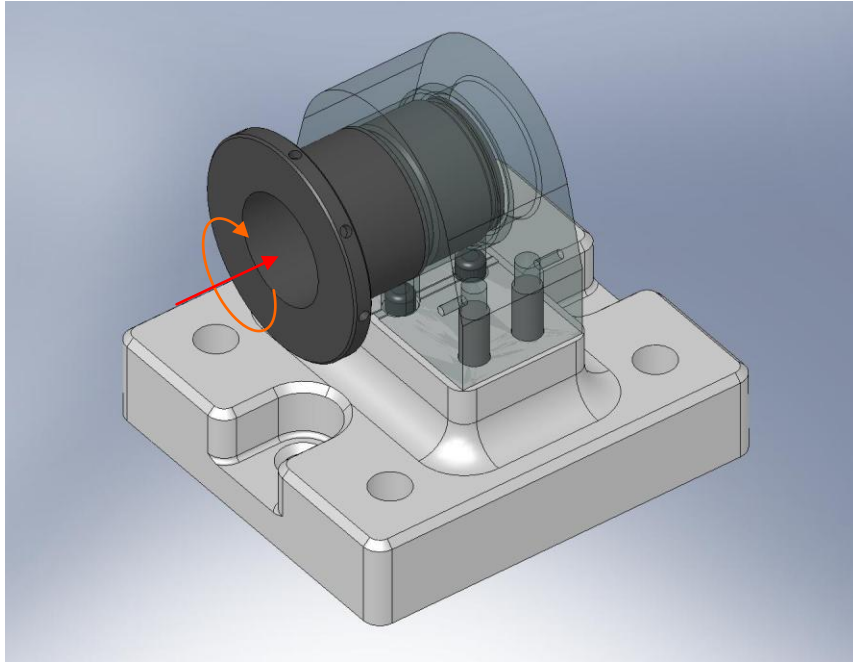

Figure 2.14. Locker Sleeve is inserted in the Kinematic Lock Housing. Run the Sleeve's thread into the internal thread in back of Housing.
- Insert **Locker Sleeve** (D070270) into **Kinematic Lock Housing** as shown in Figure 2.14. *The fit is very tight! Rotate Sleeve during insertion, to reduce risk of binding.* Thread **Sleeve** all the way into the **Housing**.